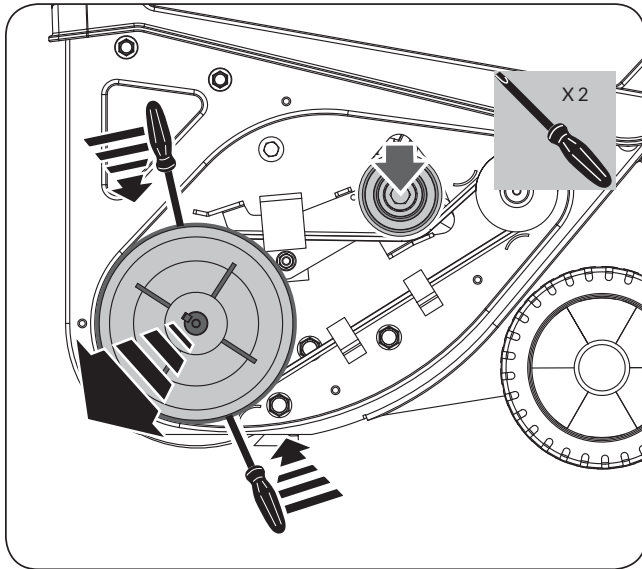

Figure 10c
4. With the help of another pushing down the belt tension idler to keep the idler bracket away from the auger pulley, use two screwdrivers to pry the auger pulley as shown, so that auger pulley becomes loose and away from the axle. (See **Figure 10c**)